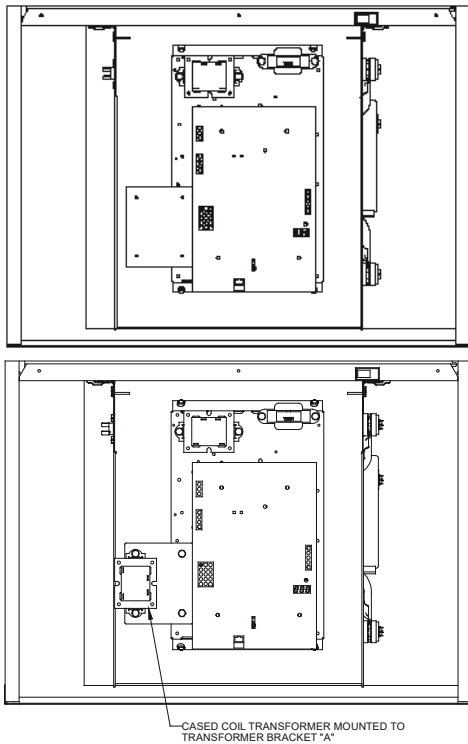

Figure 18
**FOR 21.0" AND 24.5" WIDTH CABINET FURNACE:** Bracket "A" can be fastened on extra screw holes on the PCB control deck using (2) self tapping, field supplied screws. (See Figure 18.)